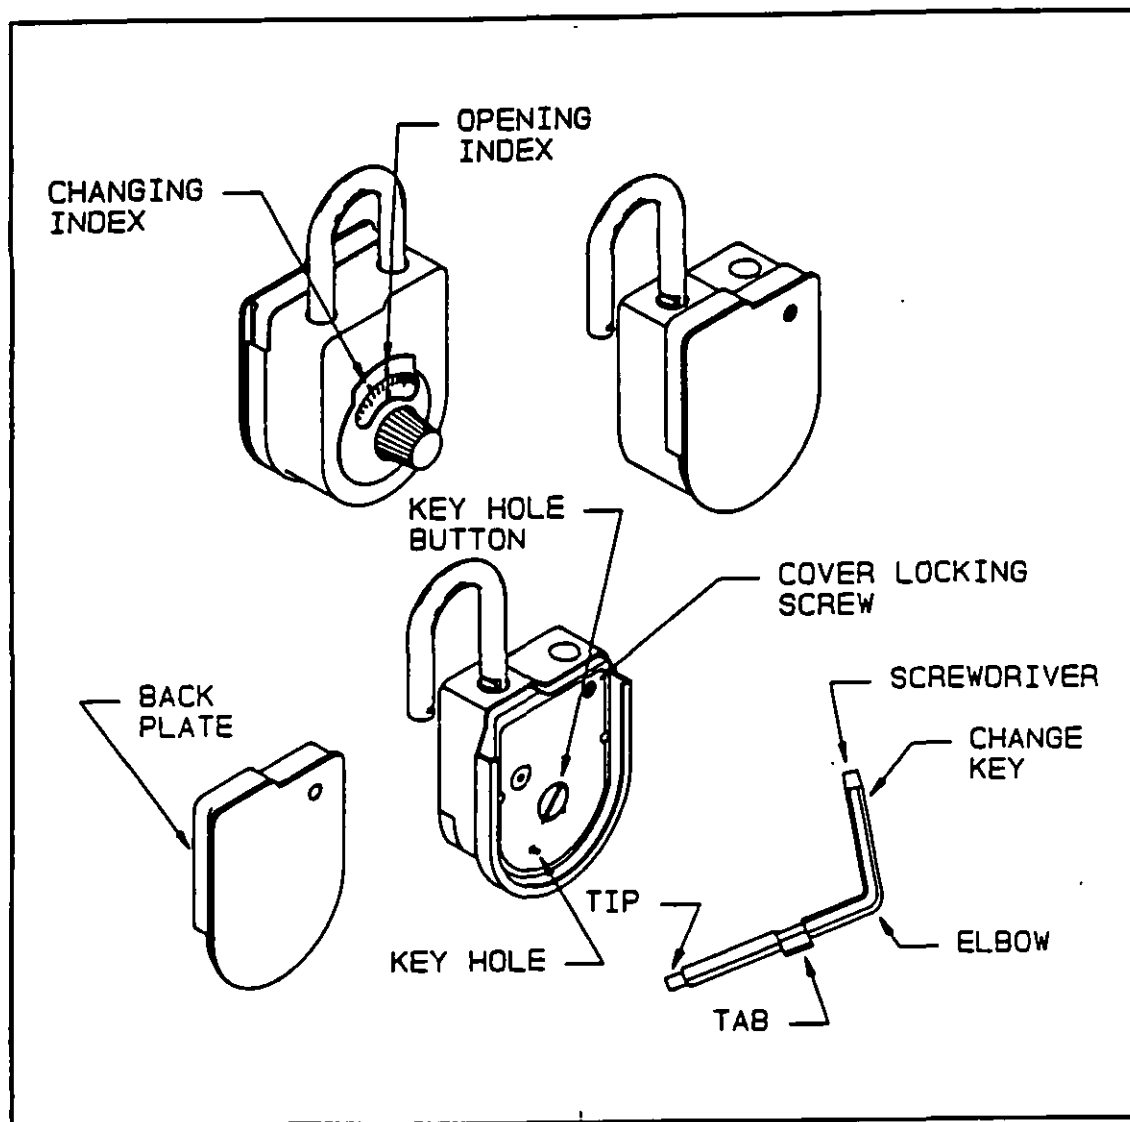

Figure 23
It has a 5/16-inch (8-mm) shackle made of either steel or brass. The brass shackle is for use in explosive environments. The Model 8077AB with change key is illustrated in Figure 23.
3.3.1.3 Combination Changing Procedure. To change the combination on the Model 8077AB refer to Figure 23 and proceed as follows:
- h) Dial the present (old) combination on the CHANGING index. All numbers of the combination, including the last number (0), are used in the combination changing procedure. Do not pull the shackle out.
- i) Using the elbow of the changing key (Figure 23), turn the keyhole button on the back of the lock to the RIGHT to the open position. If the button will not turn, repeat the procedure in step i).